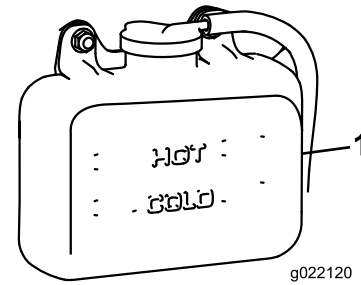

Figure 75
1. Check the level of the coolant in the expansion tank (Figure 75).